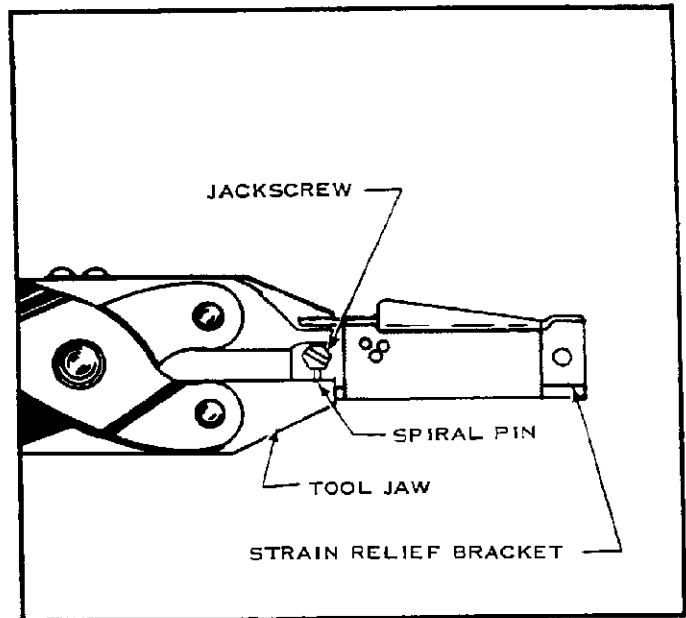

Fig. 5
- (c) Place Strain Relief Clamp Bracket against Connector Block. See Figure 5.
- (a) Keeping holes in Jackscrew Tip and Body aligned, grasp Jackscrew with Tool so that Spiral Pin fits into hole in Body. See Figure 5.